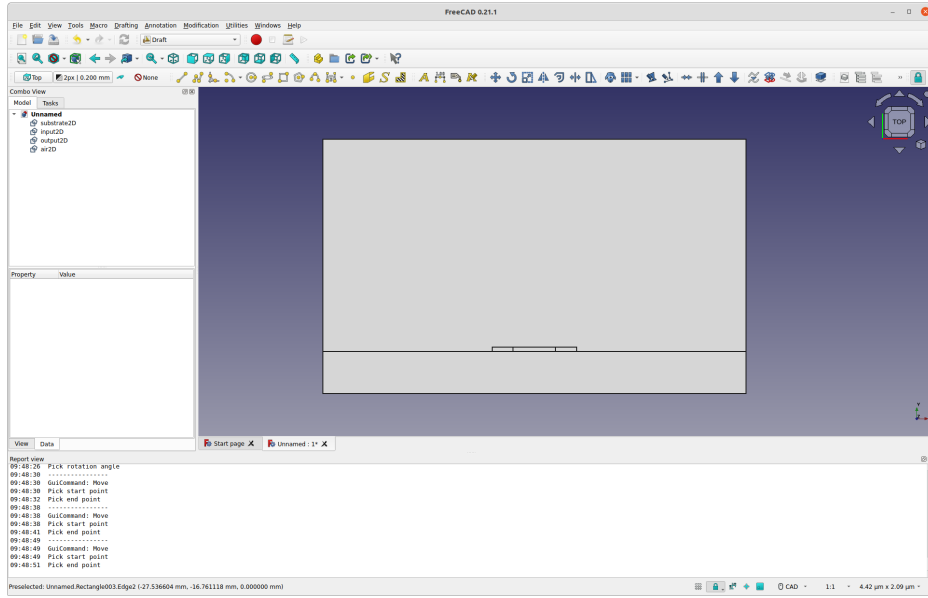

Figure 11: Screenshot of the 2D setup for the microstrip-step-in-width tutorial.
- The project should look like the screen shot in Fig. 11.